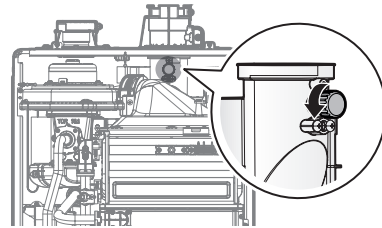

Figure 7
- a. Open the cover of the emissions monitoring port as shown in Figure 7.